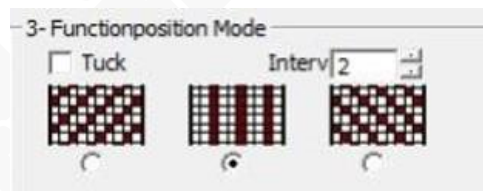

Figure 6-34
1. Click on the “Circle Collection” selection box in Figure 6-34.